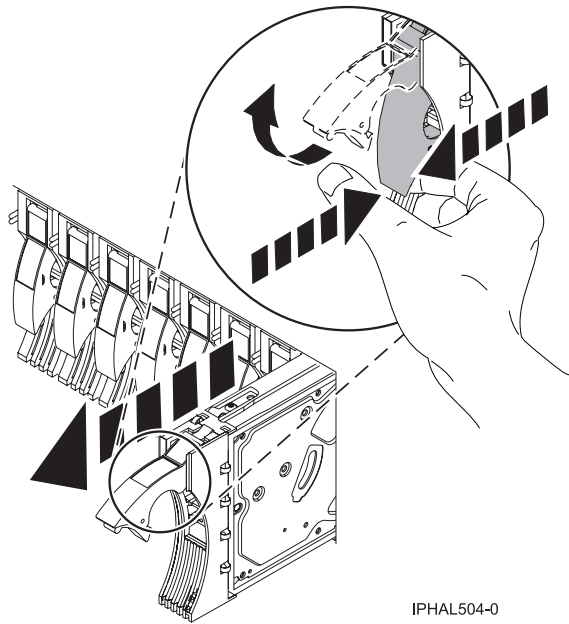

Figure 59. Removing a disk drive from a model or 7311-D20
8. Squeeze or lift the handle of the disk drive out toward you before you remove the disk drive, as shown in Figure 59 on page 79. If the handle is not all the way out, the disk drive can not slide out of the system or expansion unit.